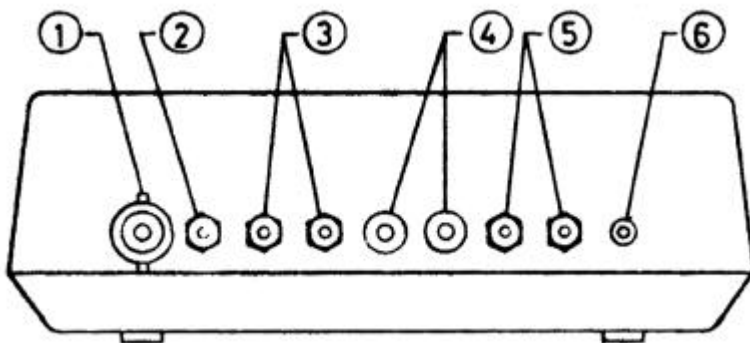

Figure 2 Rear View
1.1) Connect the pH electrode and ATC/Temp. to the rear of the instrument .Refer to Figure 2.
1.6) Adjust the SLOPE control for the meter to indicate the value of the buffer 4.01 or 10.01,corresponding to the buffer temperature.Refer to Figure 2 and table 1. Be sure to allow sufficient time for the pH electrode and ATC/Temp. probe equilibrium with the buffer 4.00 or 10.01.
2.7) Adjust the SLOPE control for the meter to indicate the value of the buffer 4.01 or 10.01, corresponding to the temperature set in 2.6. Refer to Figure 2 and Table 1. Be sure to allow sufficient time for the pH electrode to reach temperature equilibrium with the buffer 4.01 or 10.01.
1.Connect the working electrode to BNC connector and the reference electrode to the reference pin connector ,refer to Figure 2.